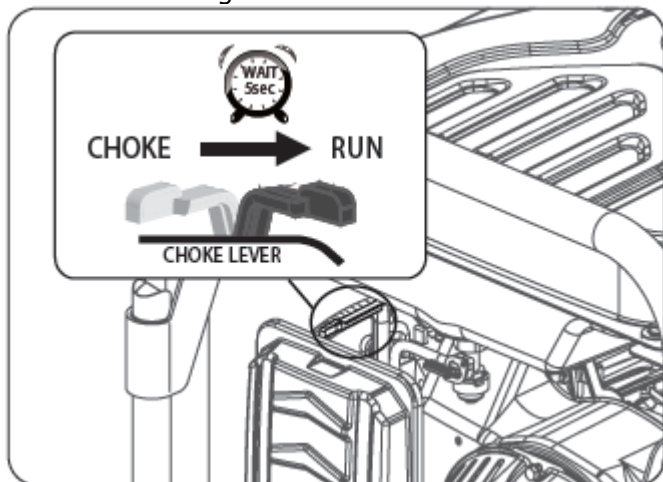

Fig. 14
- Let engine run for several seconds and then gradually, as engine warms up, slide the choke lever towards the "RUN" position until the choke is fully slid to the "RUN" position. (See Fig.14)